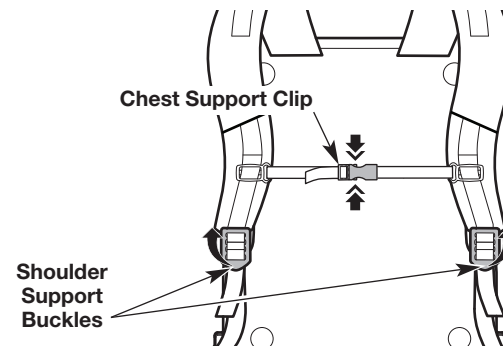

Fig. 12
- Pull the tabs on the bottom of the shoulder support buckles up to loosen the shoulder supports (Fig. 12).
- Pull the chest support clip up to loosen the chest support (Fig. 12).
- Squeeze the top and bottom of the chest support clip to disconnect the chest support clip (Fig. 12).